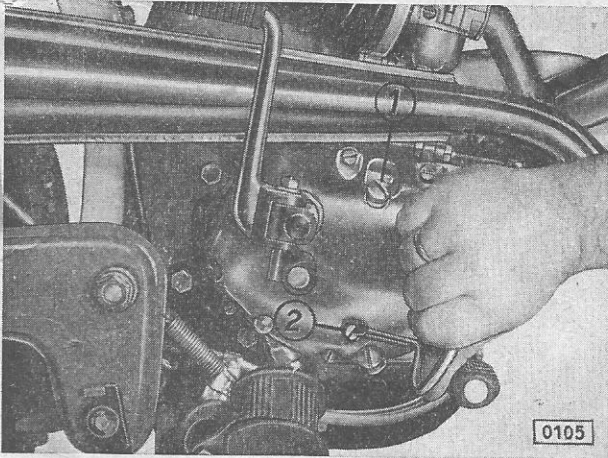

Fig. 5: Checking the oil level in the gearbox:
1. Unscrew oil level plug (Fig. 5/2).
3. If no oil issues: unscrew oil filler plug (Fig. 5/1) and fill up with branded engine oil (summer SAE 40—50, winter SAE 20—30), until oil issues from the bore of the oil level plug (Fig. 5/2).
4. Screw in the oil level plug (Fig. 5/2).
5. Screw in the oil filler plug (Fig. 5/1).
2. Remove oil filler plug (Fig. 5/1).
7. Screw in oil filler plug (Fig. 5/1).
12. Remove oil level plug (Fig. 5/2).
13. Fill up with motor oil (summer SAE 40—50 winter SAE 20—30) (300—350 cc/18.5—21.5 cu. in.), until oil issues from the bore of the oil level plug (Fig. 5/2).